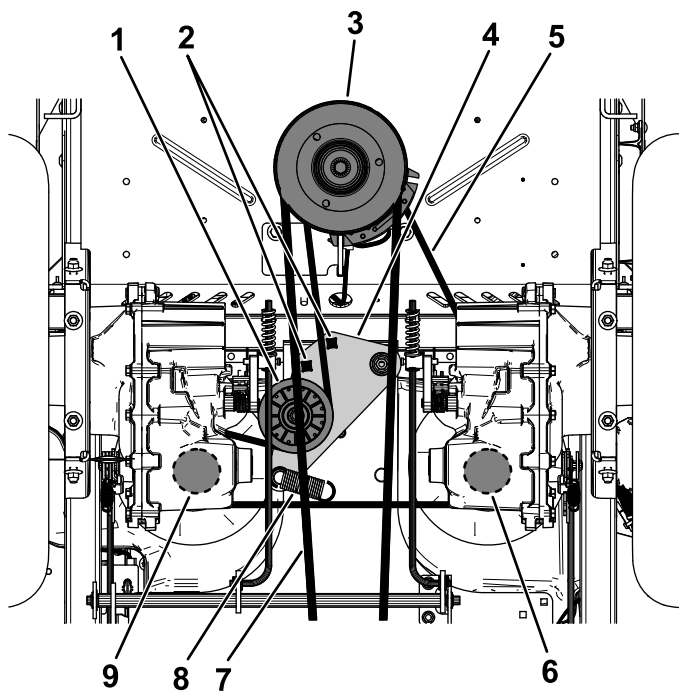

Figure 64
5. Use a 1/2-inch ratchet or breaker bar in one of the square holes in the idler arm to remove tension on the idler spring (Figure 64).
6. Remove the existing belt from the idler pulley, 2 hydraulic-pump-drive pulleys, and engine pulley (Figure 64).
7. Install the new belt around the idler pulley, engine pulley, and 2 hydraulic-pump pulleys (Figure 64).